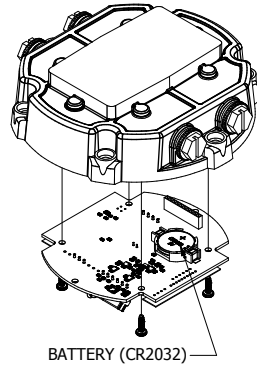

Figure 18
- Remove and replace the coin cell battery (CR2032) on the back side of PC board (see Figure 18).
- Reverse the procedure to reassemble the cover plate to the base. Make sure the cover plate seal is seated before tightening the (6) cover plate screws.